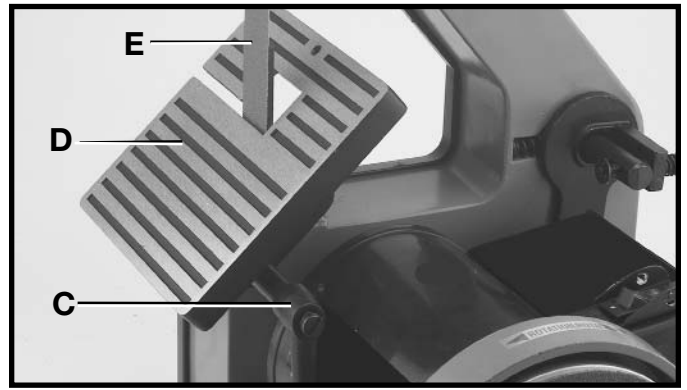

Fig. 19
4. The table can be tilted to the front (Fig. 19), by loosening table locking handle (C), tilting the table to the desired angle and tightening the table locking handle (C).
**⚠️WARNING:** To avoid trapping the workpiece or your fingers between the table (D) and the sanding belt (E), adjust the table so that there is a maximum 1/16" between the work table and the belt (see the section "BELT TABLE ADJUSTMENTS").